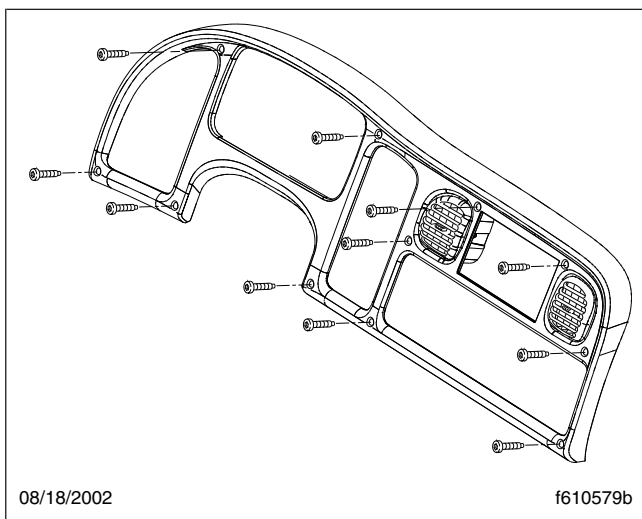

Fig. 2, Dash Trim Piece
- Remove the dash trim piece by removing the eleven screws that secure it to the dash. All fasteners for this procedure are 10–16 Torx® capscrews. See **Fig. 2**.